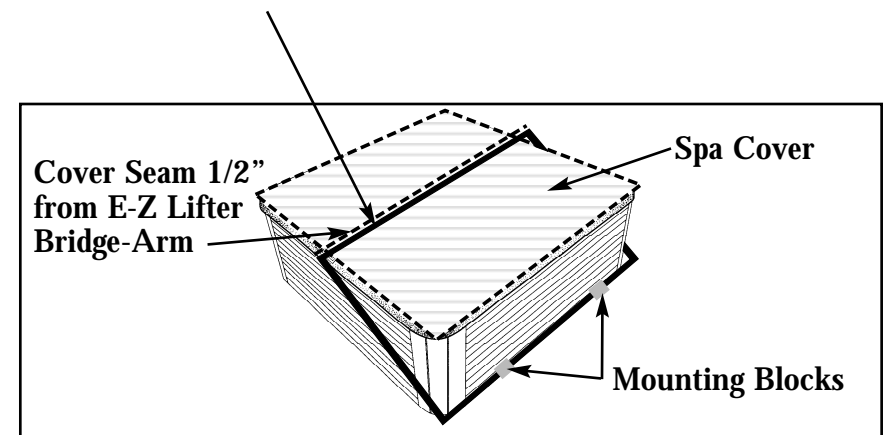

FIGURE 4
- 5) Lay the top portion of the E-Z Lifter on top of the spa and the bottom portion at the base of the spa from the point at which the E-Z Lifter is to pivot. Double check any measurements to ensure that the E-Z Lifter will raise and lower without hitting the sides of the spa. Ensure that the bridge-arm on top falls 1/2" short of the cover seam (see Figure 4).